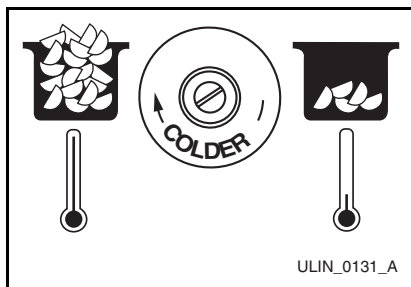

Figure 5
2. Turn the adjusting screw (**Figure 5**) using a flat tip screwdriver in a small increment clockwise for a COLDER setting (slower ice production) or counterclockwise for a WARMER setting (faster ice production).